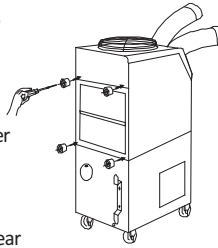

Figure 11
2. Place the rubber stoppers on the rear of the unit as shown in Figure 11.